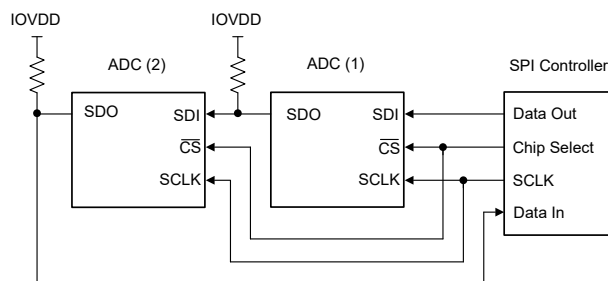
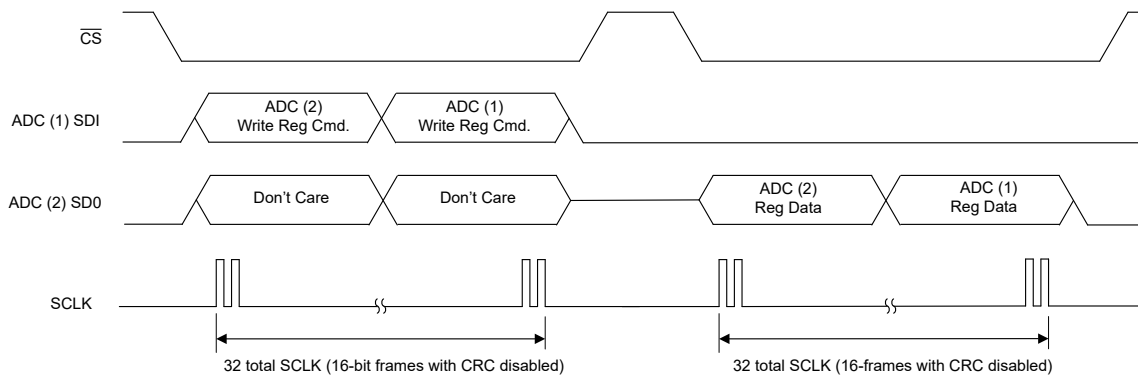

図 7-50. SPI Daisy-Chain
図 7-51. SPI Daisy-Chain Register Write Data Format
FIG 7-50 shows a two-device, daisy-chain connection and FIG 7-51 shows the data format for a register write commands for each device. The *Data Out* line of the controller connects to ADC (1) SDI and ADC (2) SDO connects to the *Data In* line of the controller. ADC (1) input data is shifted out on SDO to drive the ADC (2) SDI. The shift operation continues until the last device in the chain is reached. The SPI frame ends when \overline{CS} is taken high, at which time the data shifted in to each device are interpreted. The second frame shifts out the register data from both devices through the ADC (2) SDO pin.